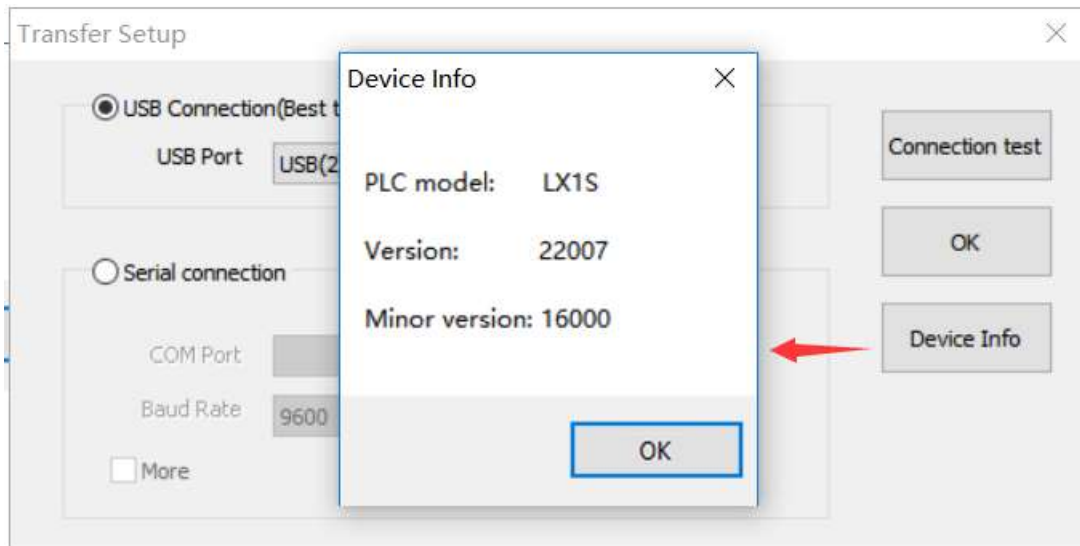

Figure 5-6
5) Click [Connection test] for communication testing, the testing tip message as Figure 5-6 shows,